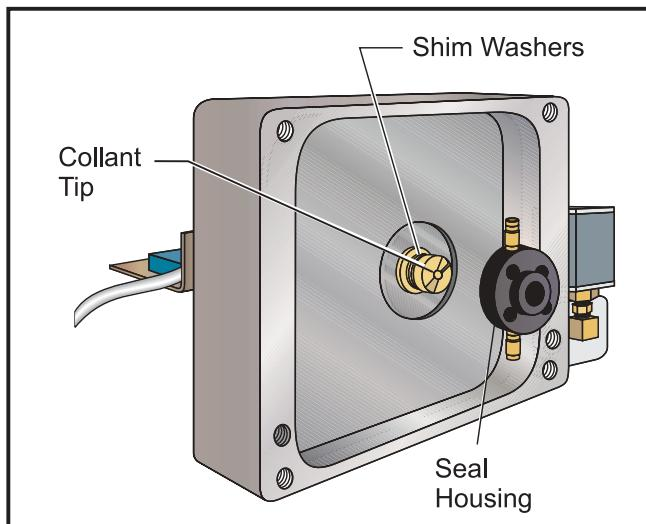

Figure 3.6-2. Coolant tip and seal housing (TSC machines only).
5. The clearance from the tool holder to the block should be zero (0). To accomplish this, set the jog increments to .001 and jog in the negative (-) Z direction a few increments at a time. Between these moves, push the TOOL RELEASE button and feel for movement by placing your finger between the tool holder and the spindle. **Do this until no movement is felt.** You are now at zero (0).
6. Press the MDI key and turn the jog handle to zero (0). Press HANDLE JOG. Jog the Z-axis in the positive (+) direction .100".
- If the block is tight at 0.070 or less, the Coolant Tip (figure 3.6-2) must be replaced. Call your dealer for replacement of the Coolant Tip and the seal housing.